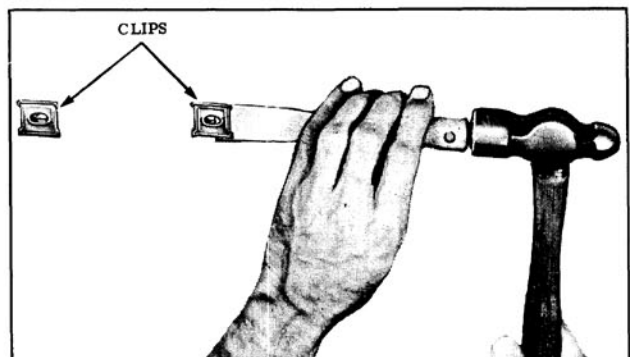

Fig. 16-398 Removing Bathtub Type Clip
1. Insert sharp edge of flat-bladed tool, such as a putty knife, under edge of clip and hammer tool until base of clip is cut approximately half-way through (Fig. 16-398) then disengage clip from hole.